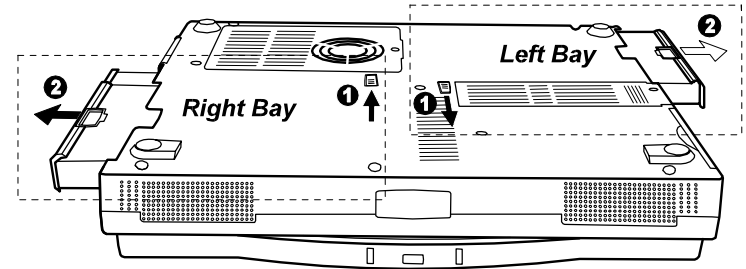

Figure 7-7. Removing the Right/Left Bay Device
1. Slide the device module into the right bay until the location latch clicks into the locked position.(Refer to Figure 7-7)